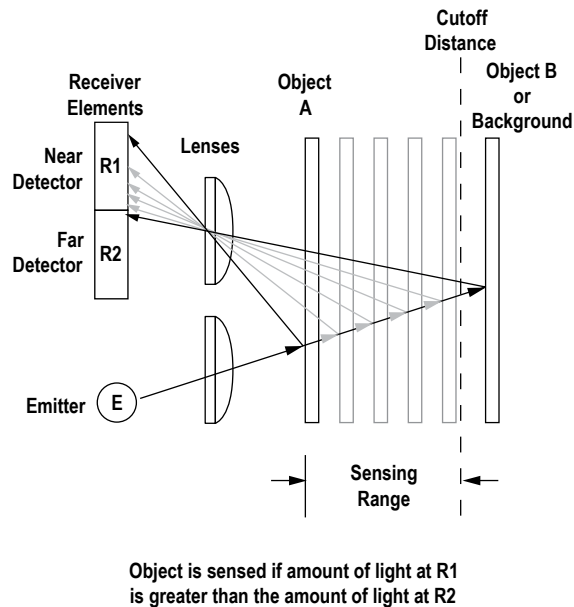

Figure 1. Fixed-Field Concept
The WORLD-BEAM QS30 Series Sensor compares the reflections of its emitted light beam (E) from an object back to the sensor's two differently aimed detectors, R1 and R2. See Figure 1 on page 2. If the near detector's (R1) light signal is stronger than the far detector's (R2) light signal (see object A in the Figure below, closer than the cutoff distance), the sensor responds to the object. If the far detector's (R2) light signal is stronger than the near detector's (R1) light signal (see object B in the Figure below, beyond the cutoff distance), the sensor ignores the object.